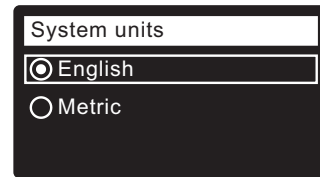

FIG. 26
- SYSTEM UNITS** If the desired system already has a dot next to it (See Figure 26), go to Step 18. Otherwise, press the DOWN (▼) or UP (▲) buttons to scroll to the desired system, then press the SELECT (O) button to choose it.
- Press the SELECT (O) button.